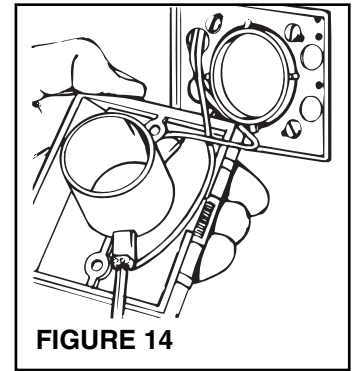

FIGURE 14
4. Refer to Figure 14. Connect 2-conductor low voltage wire to terminal screws on back of wall inlet.